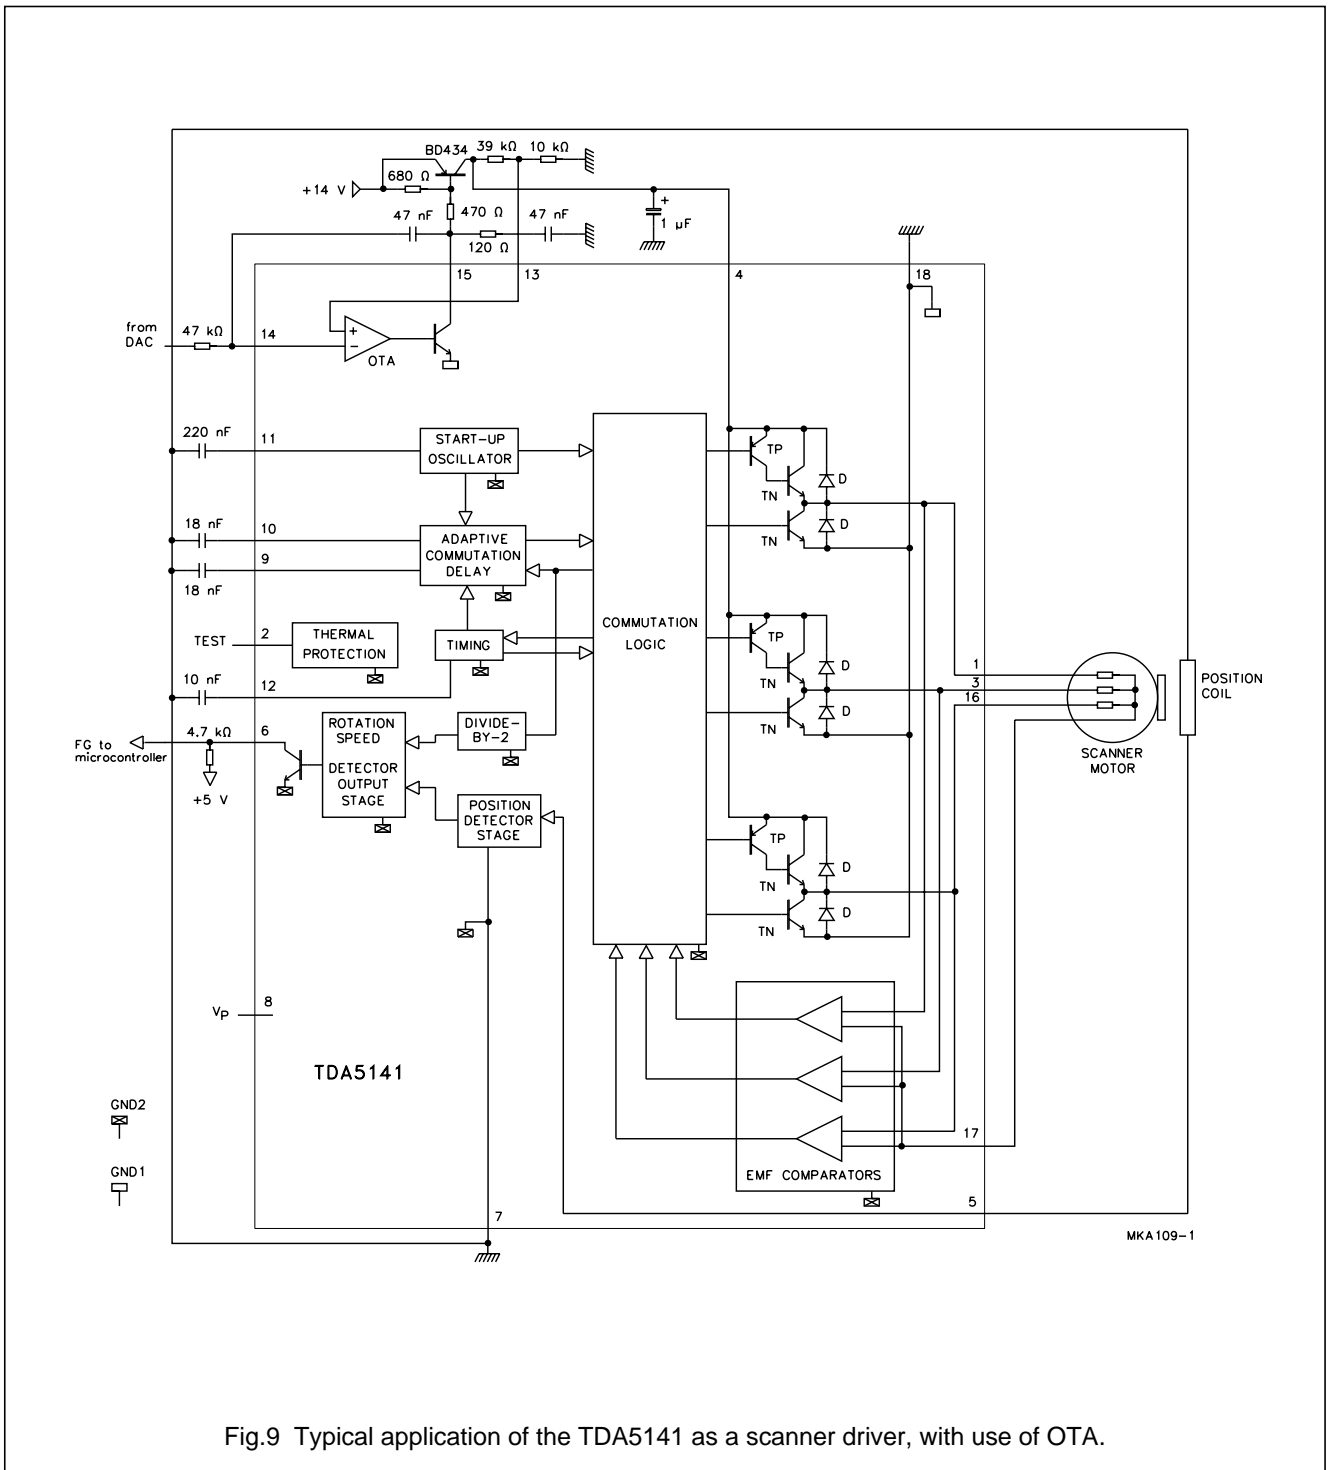

Fig.9 Typical application of the TDA5141 as a scanner driver, with use of OTA.
**Introduction (see Fig.9)**
For the control an external transistor is required. The OTA can supply the base current for this transistor and act as a control amplifier (see Fig.9).